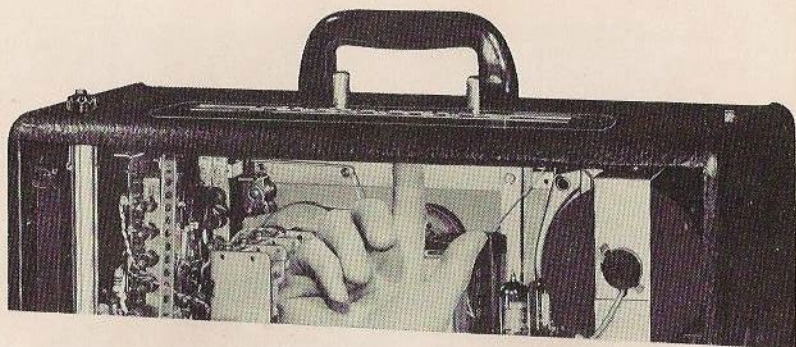

Figure 15—Press Up Thru Finger Hole to Remove Wavemagnet.
2. Remove the Broadcast Wavemagnet by pressing up through the finger hole provided at the center under the edge of the cabinet top. (See Fig. 15.)
- A. In steel structures and vehicles, remove the Broadcast Wavemagnet by pressing up through the finger hole provided at the center under edge of the cabinet top. (See Fig. 15.)